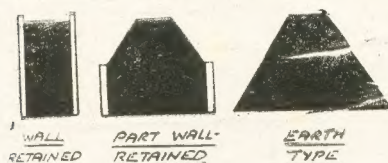

Fig. 1—The three types detailed
Briefly, real railway embankments fall into three classes (Fig. 1)—(1) the wholly wall-retained, (2) the partially wall-retained and (3) the ordinary earth